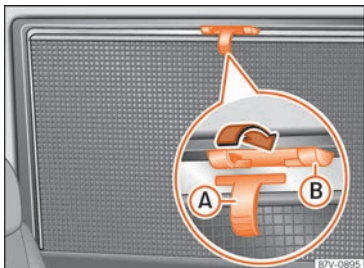

Fig. 127 On the rear right-hand window: curtain.
- Pull the sun blind by the handle »» Fig. 127 **A** up to the top.